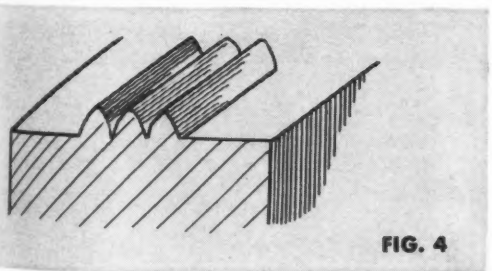

FIG. 4
5. Avoid molded parts which necessitate delicate mold sections such as shown in Figs. 4 and 5.